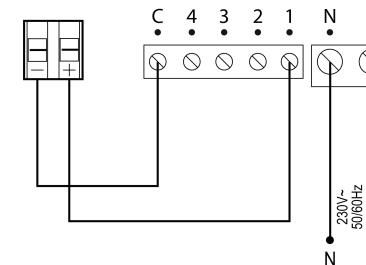

Fig. 3
- ⇒ Fig. 3 : Connection to movement detector.
- > Press the Programming key (1). The green LED goes on.